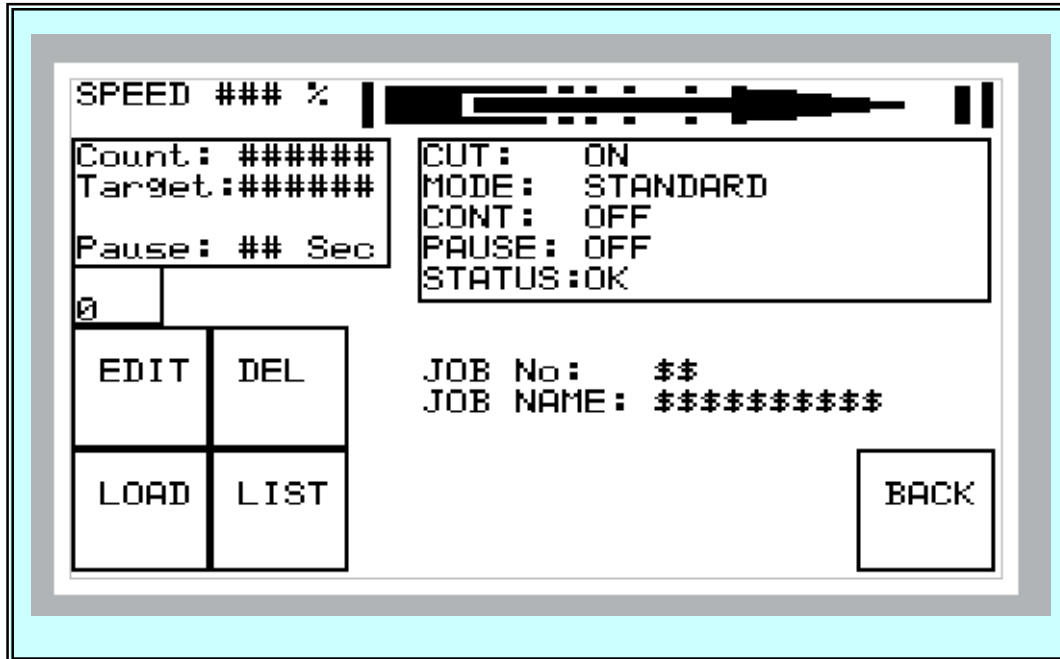

Fig 1.8 Enhanced Programming Control
- Once all the formats have been entered, touch the SAVE button to store the information and then touch the BACK button to return to the Enhanced Programming Mode Main Menu screen (shown in Fig 1.8)